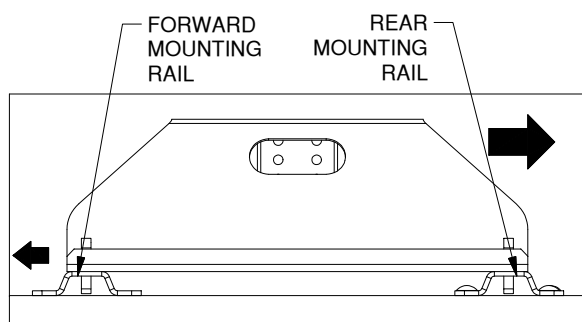

Figure D4: Side view of RV base and mounting rails.
**IMPORTANT:** Before drilling forward mounting holes pull the RV base towards the rear of the truck and push the forward rail towards the cab of the truck to correctly space the mounting rails, see Figure D4.